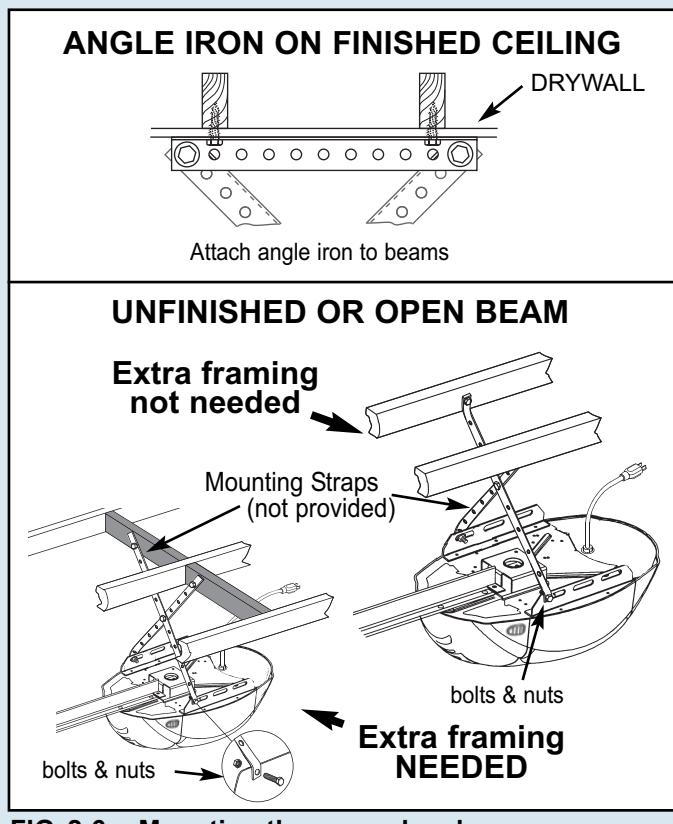

FIG. 2-6 Mounting the power head.
- On finished ceilings, locate ceiling joists or trusses using a stud finder or similar device. Attach angle iron (not provided) to joists or trusses through finish material using (provided) lag screws (**Fig. 2-6**).
- On unfinished ceilings or open ceilings, straps may attach directly to joists or trusses. Depending on the garage construction, extra framing material (not provided) which may be required should be installed using appropriate construction techniques (**Fig. 2-6**).
- Attach mounting straps to ceiling using lag bolts (**Fig. 2-6**).
- Set height of power head to following (**Fig. 2-6**).